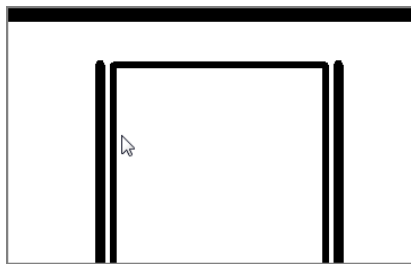

FIGURE 12.57: Offsetting the heavy lines 3/8" (9mm) to the right and the left
The next step is to add the track to the bottom of the floor. You'll do this by creating three wide lines. The trick is to do a good amount of offsetting. If you want to explore and try the procedure on your own, look ahead to Figure 12.57 and try to match it dimensionally. Remember, you're using wide lines for the track.
7. Offset the left and the right lines, as shown in Figure 12.57.